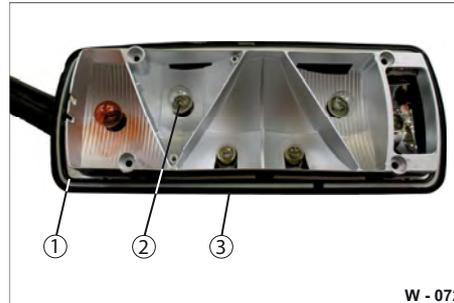

Fig. 70 Tail light open
- ▶ Set the outer light lens close to the housing (Fig. 70/3).
- ▶ Ensure that the seal is correctly seated (Fig. 70/1). Replace damaged/ripped seals.